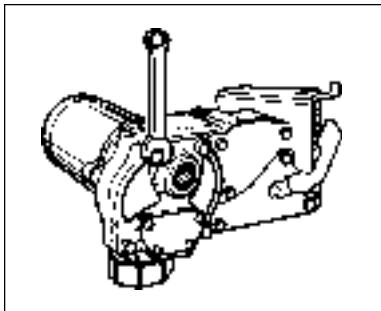

Figure 6
2. Remove the gear coverplate. (Figure 6)